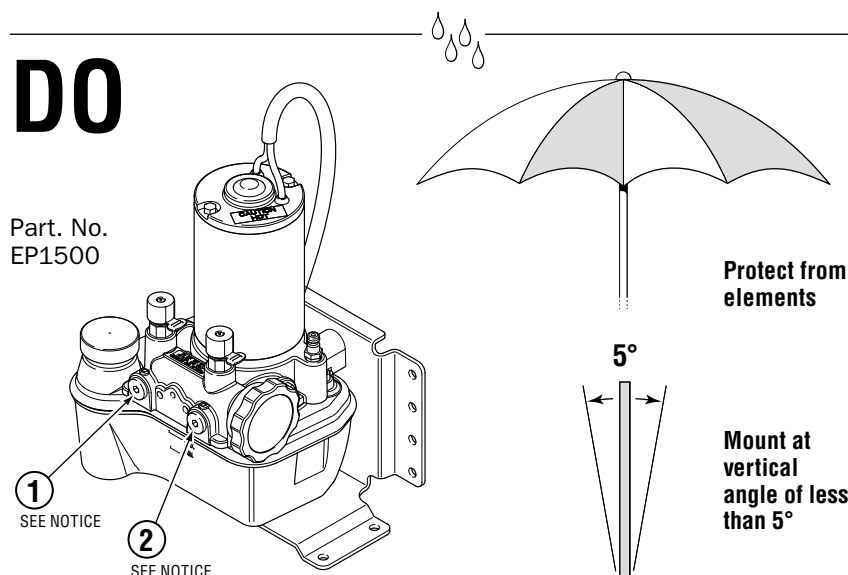

Figure 4-9.
Hose fittings can be relocated to plugged ports if required. (See figure 4-9, item 1 and 2.) Torque hose fittings to 18 ft-lb (24 Nm) and plugs to 50 in-lb (6 Nm).